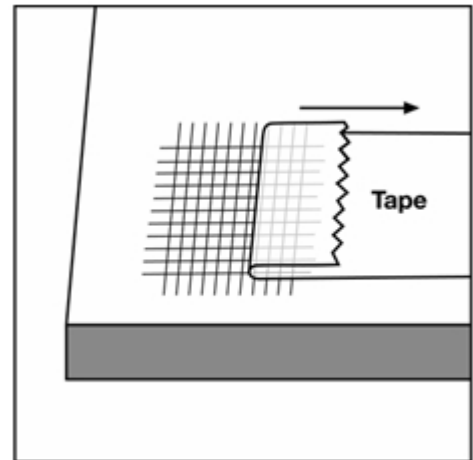

Figure 4f
4. Immediately and in one rapid motion, remove the tape by pulling it back at a 180° angle, parallel to the Celtec sheet (Figure 4f).